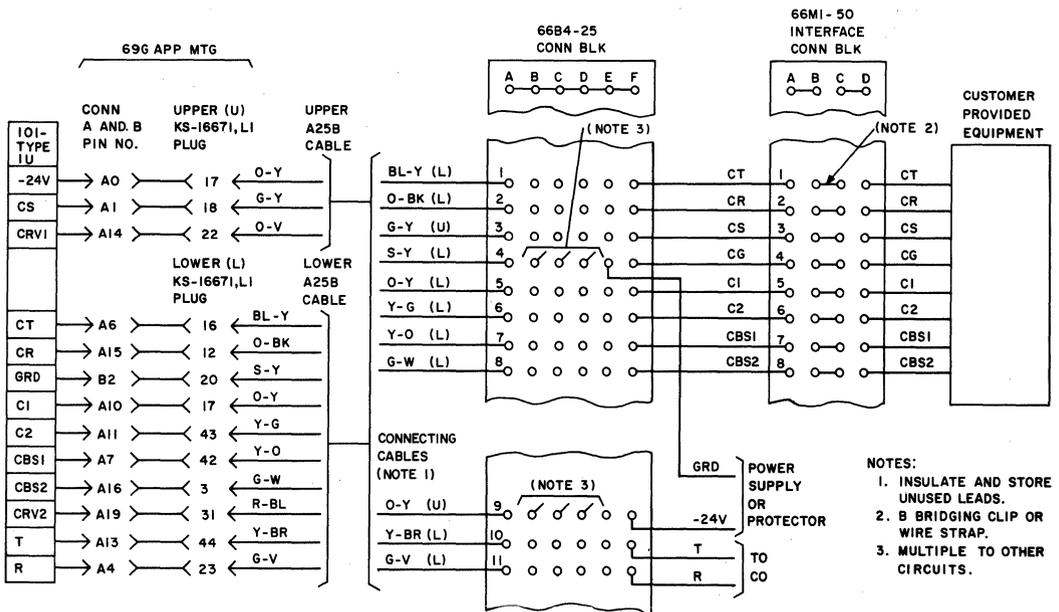

Fig. 10—Connection Diagram—69G Apparatus Mounting With 101-Type IU
- Block, Connecting, 66B4-25 (as required) (Fig. 10 and 11)
3.01 The 69G apparatus mounting should not be used for new installations of PCA CED. Refer to Fig. 10 for connections used in existing installations.
1. SEE TABLES C, D, E, F, OR FIG. 10 FOR PIN OR TERMINAL NOS.
- (W) FOR USE WITH SXS CO
- (X) WITHOUT RERING
- (Y) WITH RERING
- (Z) CO LOOP EXCEEDS 500 OHMS
1. SEE TABLES C, D, E, F, OR FIG. 10 FOR PIN OR TERMINAL NO.